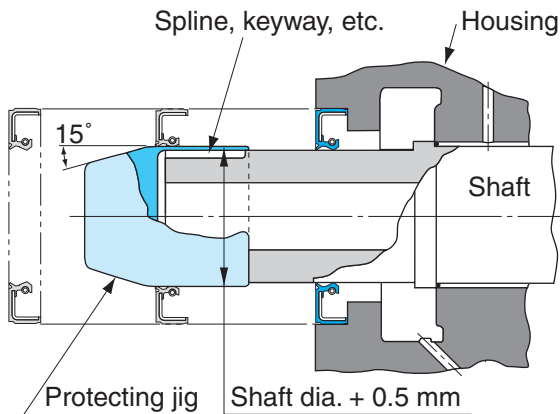

Fig. 1.7.8 Seal protecting jig for spline, keyway, holes on shaft
7) In case of shaft has spline, keyway, or holes, use seal protecting jig to prevent lip damage as illustrated below (Fig. 1.7.8).